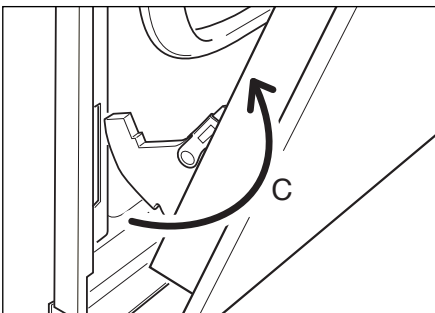

Fig.27e
- Withdraw the hinge hooks from their location following arrow "C" (Fig. 27e).